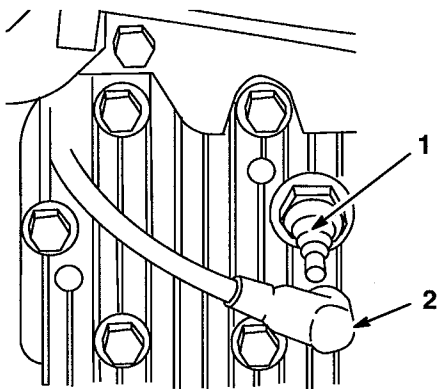

Figure 19
1. Stop engine and pull wire off spark plug (Fig. 19).